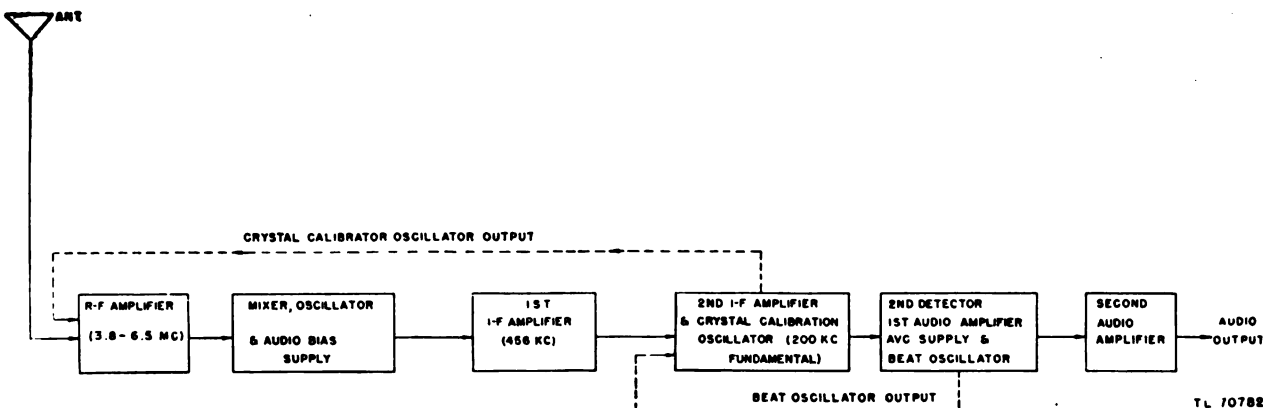

Figure 2. Block diagram, receiver of Radio Receiver and Transmitter BC-1306.
a. GENERAL. Radio Receiver and Transmitter BC-1306 may be rapidly switched manually from receive to transmit positions, using the same antenna system for transmission and reception. The receiver dial is directly calibrated in megacycles while the transmitter dial is calibrated 0 to 3,000. The signal path through the receiver and transmitter respectively, is shown in block diagram. (See figs. 2 and 3.)